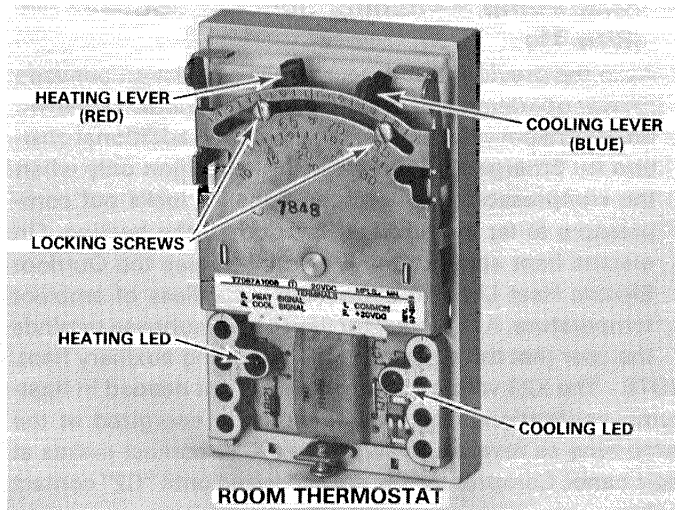

FIGURE 7
- 4 - Setpoint adjustment range is from 55° to 85°F. The thermostat has individually adjustable heating and cooling setpoints. See Figure 7. The temperature gap between the setpoint levers represents the "no load" band where unit does not operate. With levers together the no load band is 3°F. Adjustment of no load is done by spreading set point levers apart. The maximum band is 30°F.
- 5 - Diagnostic indicator lights, located under cover, allow fast visual checkout of thermostat output. See Figure 7. Two LED's (heat and cool) brighten in response to increased heating and cooling demand.